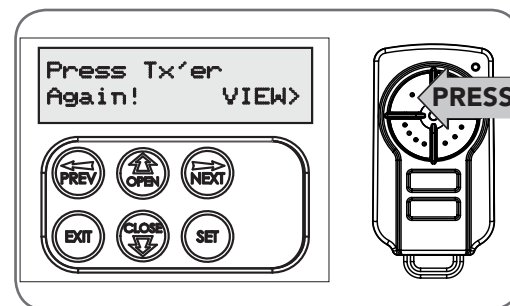

Fig 10.4
- e. Press the same transmitter button again as prompted by the display (Fig. 10.4).